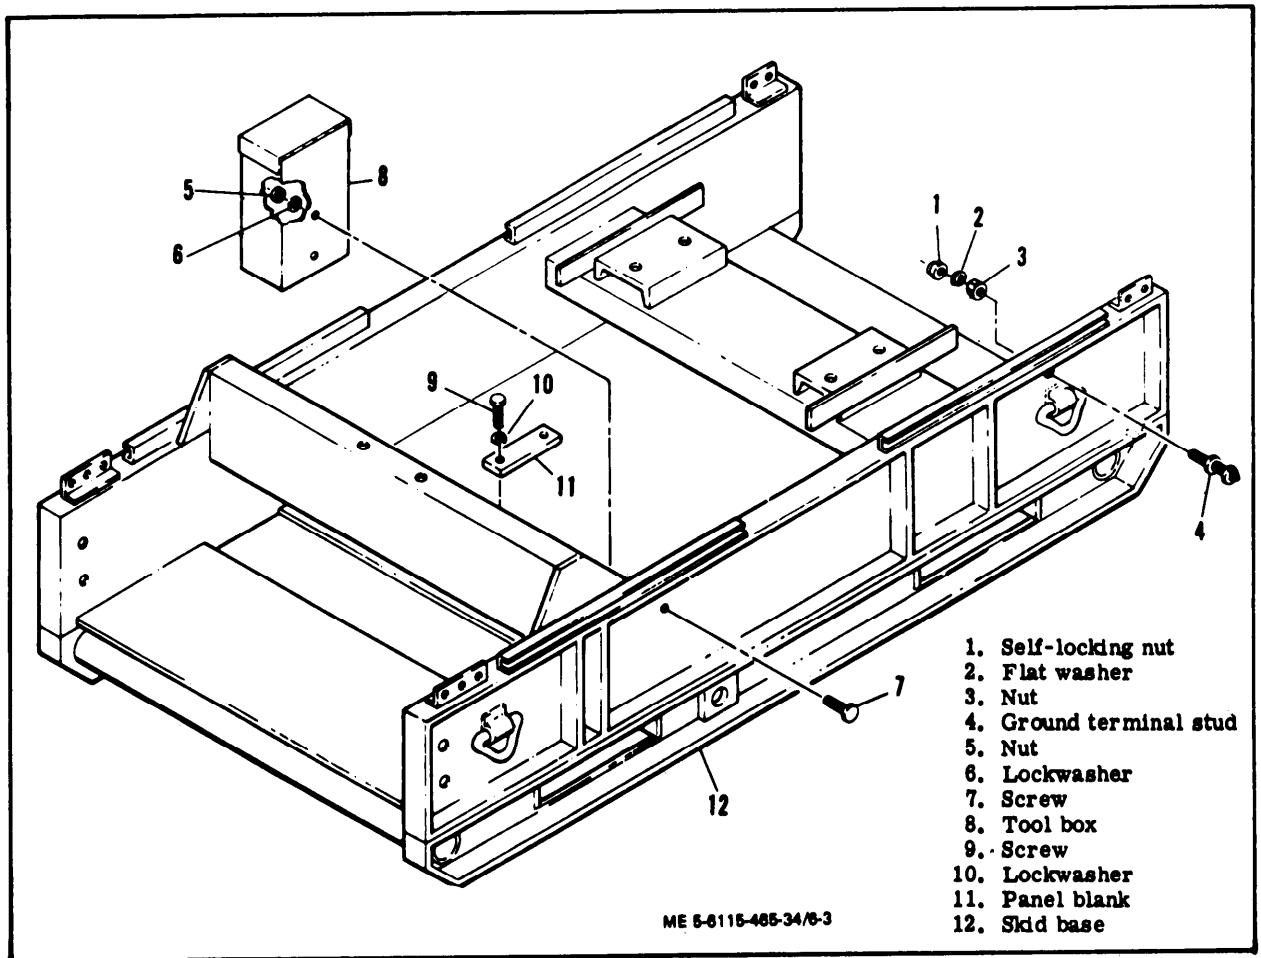

Figure 6-3. Skid Base Assembly, Exploded View
(1) Refer to the Operator and Organizational Maintenance Manual and remove the housing assembly.
(2) Remove the relay table assembly (paragraph 6-2).
(3) Remove engine assembly (paragraph 2-6).
(4) Remove generator assembly (paragraph 2-7).
(5) Remove main fuel tank (paragraph 3-15).
(6) Remove the lifting frame (paragraph 6-4).
b. Disassembly, Disassemble skid base assembly by following the ascending sequence of index numbers (1 through 12) assigned to figure 6-3.